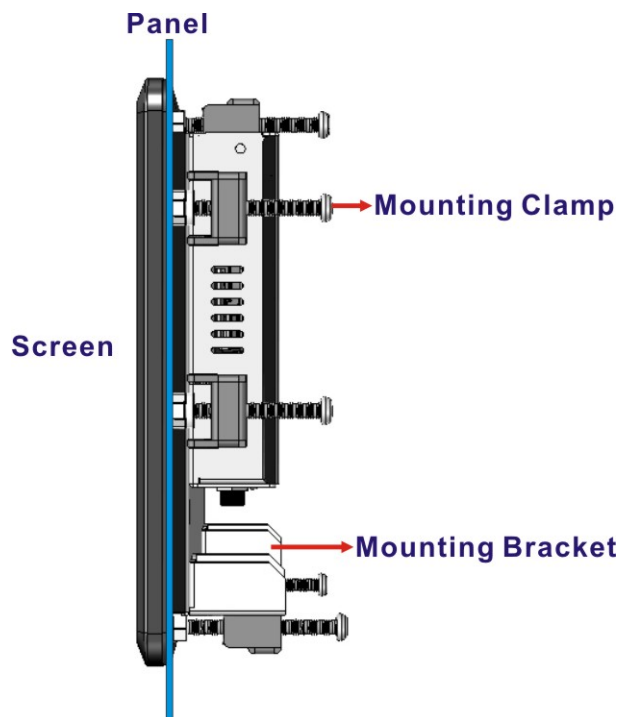

Figure 3-19: Tighten the Mounting Clamp Screws
- Step 5:** Insert the mounting clamps into the mounting brackets and pre-formed holes along the edges of the PPC-F08B/F10B-BT, behind the aluminum frame (Figure 3-19). There are a total of eight mounting clamps required.
- Step 6:** Tighten the screws that pass through the mounting clamps until the plastic caps at the front of all the screws are firmly secured to the panel (Figure 3-19).